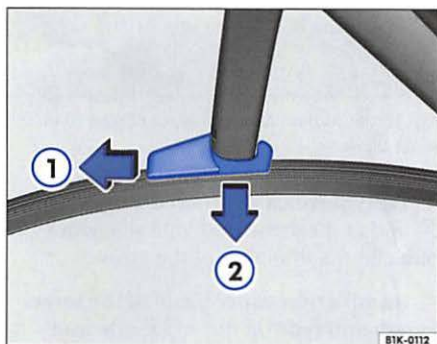

Fig. 13 Replacing rear wiper blade
- Release the wiper blade in the direction of the arrow ⇒ fig. 13 ①.
- Remove the wiper blade in the direction of the arrow ②.
- Slide a new wiper blade of the same length and design onto the wiper arm in the opposite direction to the arrow ③.
- Lock the wiper blade by moving it against the direction of the arrow ① until it engages.